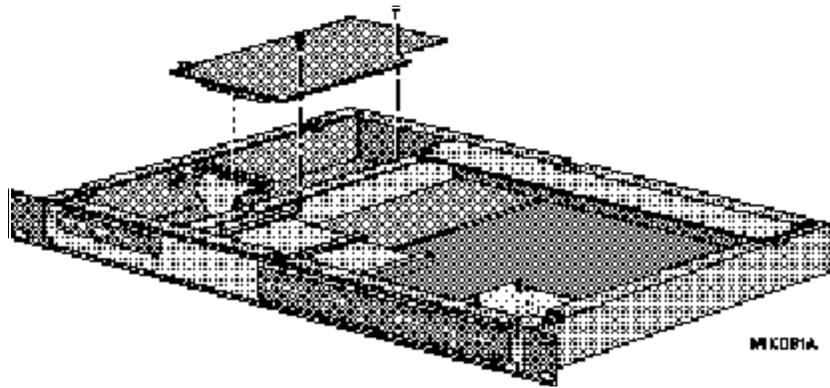

Figure 9. Install the ACG Card
11. The corner of the ACG Card, with the black rubber bumper, will rest on the "L" bracket installed on the side of the chassis in Step 5. Insert two phillips screws through the ACG Card into the Option Card bracket and tighten. (See Figure 9.)